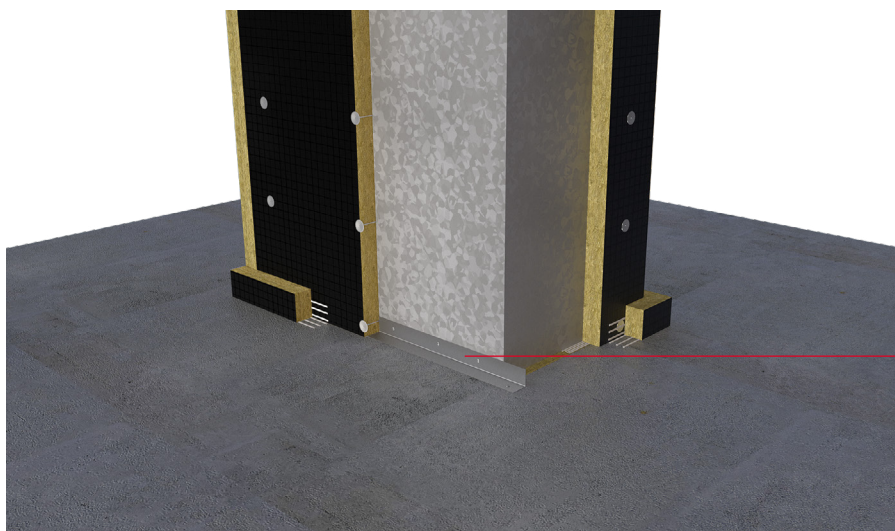

Figure 11b
2. Secure the duct to the floor structure using four 50mm x 50mm x 45mm x 2.5mm galvanised steel angles to both sides of the aperture. The angles can be fixed using two 3.2mm x 25mm self-tapping screws. Alternatively, the duct can be secured with a 40mm x 40mm x 3mm L profile as shown in Figure 11b. The length of the L profile should be equal to the width of the duct and installed to both sides (duct width).